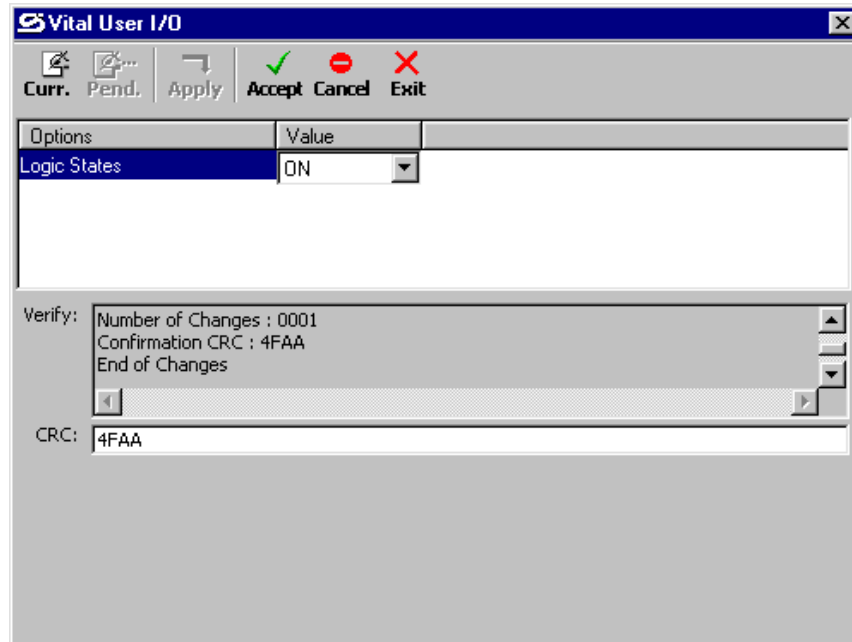

Figure 3-49
10. If the changes are correct, scroll down until the Confirmation CRC value is displayed and then enter this value in the “CRC” text box immediately below the “Verify” list box (figure 3-49). Entering the CRC ensures that the changes are confirmed with the GEO™ unit. This entry is not case sensitive.